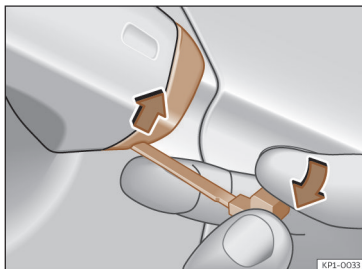

Fig. 79 Driver's door handle: pry the cover open.
- Insert the key blade into the lower opening in the cover on the driver's door handle then lever in the direction of the arrow >>> **Fig. 79**.